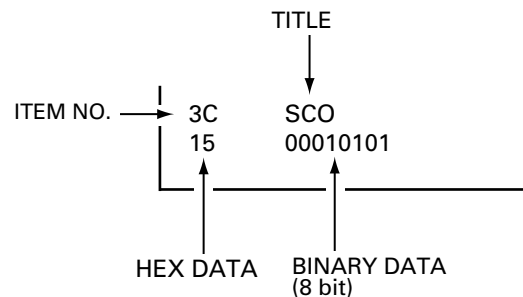

Figure 1. Service Menu Display
- While pressing the Volume – key on the **front control panel**, reconnect the AC power cord. The Service Menu Display will now appear. See Figure 1.